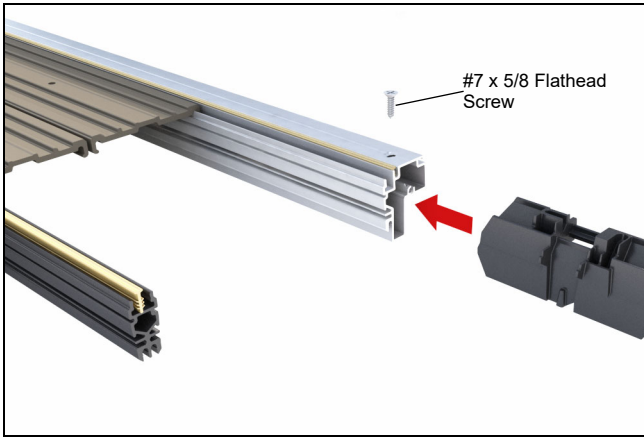

Figure 22
4. Insert frame cladding splice key(s) into one side of each splice. Align key(s) hole(s) with the hole in the frame cladding. Fasten one #7 x 5/8" flat head screw into the frame cladding splice key(s). Do not tighten screw. See figure 22.